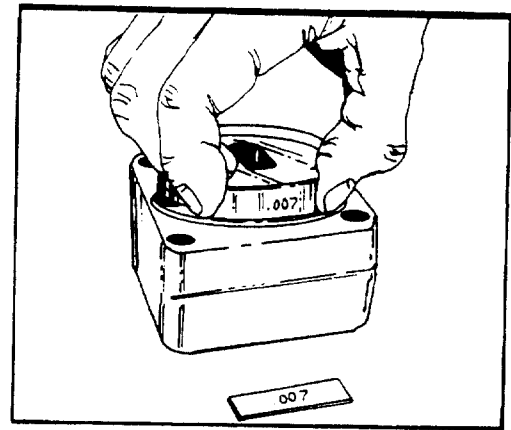

FIGURE 63.
Place the metering ring (17) on a hard flat surface. Place the assembled metering package into the metering ring with the commutator cover (20) down, such that the drive plate is partially out of the metering ring. (A suitable wood block under the metering package will hold it in this position.) See figure 63.